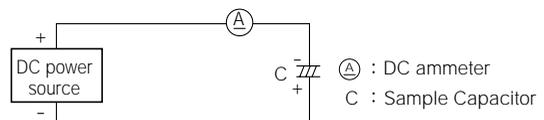

Fig. 2-6
(1) For the circuit shown in Fig.2-6, DC current is selected from Table 2-2 according to the nominal diameter of the capacitor to be tested.